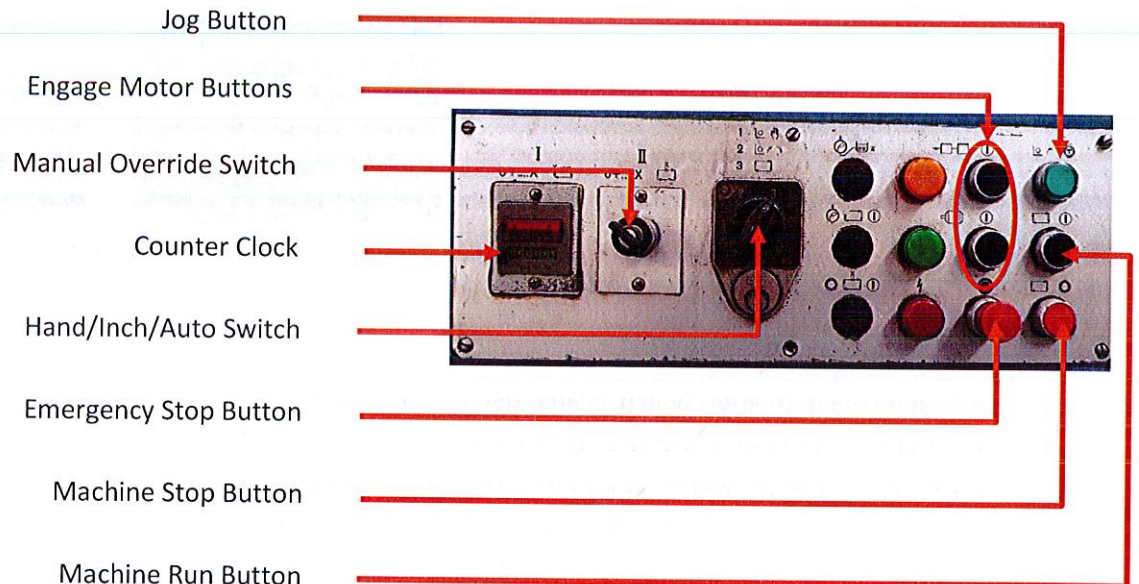

Figure 2: Machine Control Panel.
6.1. Figure 2 shows the machine control panel (MCP) and a description of the commonly used controls.